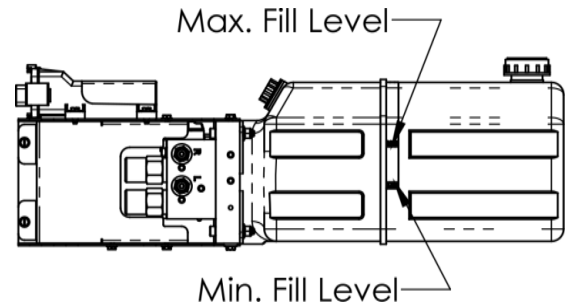

Figure 5. Final fill fluid level.
7. Add fluid to the reservoir until the fluid level is within the band shown in Figure 5.